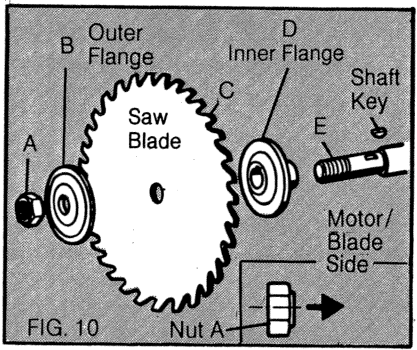

FIG. 10
2. Mount the sawblade as follows (Fig. 10):